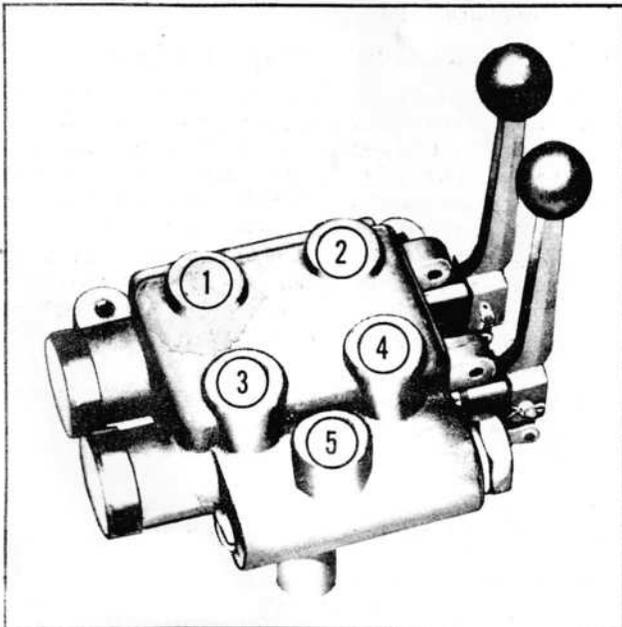

Figure 16
1. Install one $\frac{1}{2}$ " x 16" hose in port (5), Figure 16, and to the pump to valve line.
2. To obtain valve action to raise the lift arms when the left hand valve lever is pulled back, install one $\frac{1}{2}$ " x 25" hose in port (4), Figure 16, to line leading to the cap end of the lift cylinder. Install a $\frac{1}{2}$ " x 25" hose in port (3), to the hydraulic line leading to the barrel end of the lift cylinder.
3. To dump the bucket when pushing the right hand lever forward, install one $\frac{1}{2}$ " x 25" hose in port (2), Figure 16, to the hydraulic line leading to the barrel end of the bucket cylinder. Install a $\frac{1}{2}$ " x 25" hose in port (1) to the hydraulic line leading to the cap end of the bucket cylinder.
- NOTE: To reverse the valve action, reverse ports (1) and (2), and ports (3) and (4).